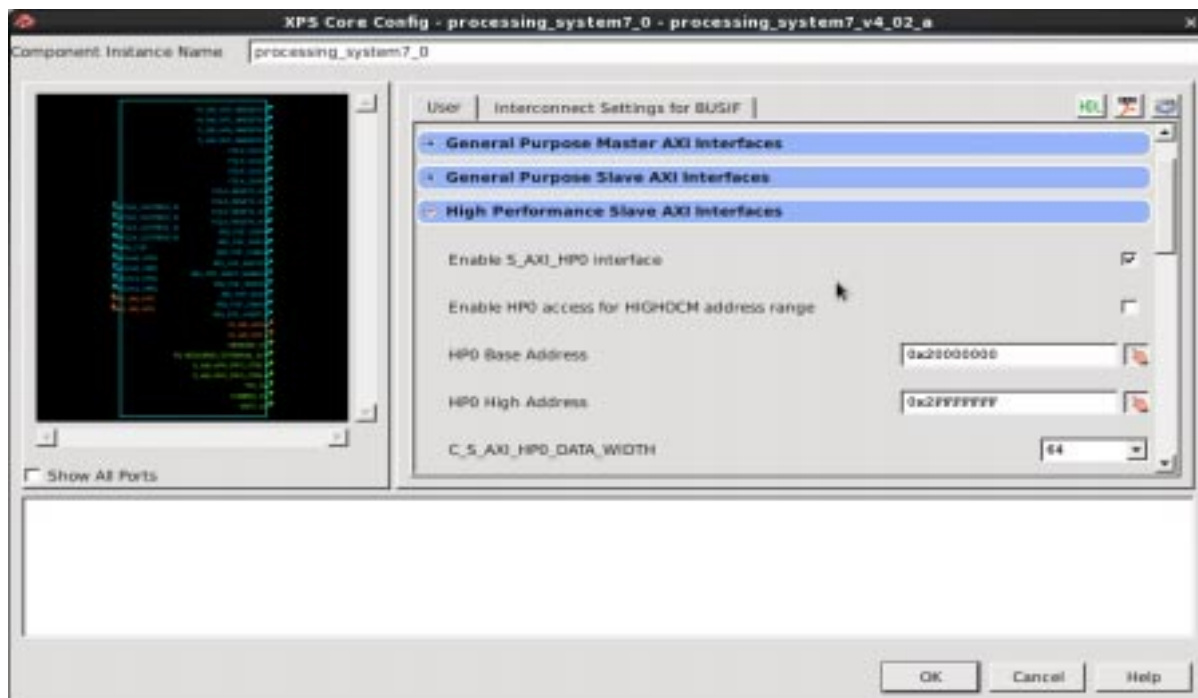

Figure 5: Configuration wizard with Slave AXI interface expanded.
5.13. In the Configuration Wizard which opens, select the User tab and expand the **High Performance Slave AXI Interface** as shown in Figure 5.